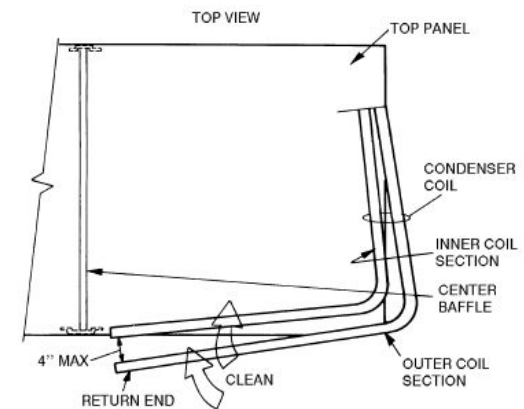

Fig. 55 — Separating Coil Sections
5. Remove fastener holding coil sections together at return end of condenser coil. Carefully separate the outer coil section 3 to 4 in. from the inner coil section. See Fig. 55.